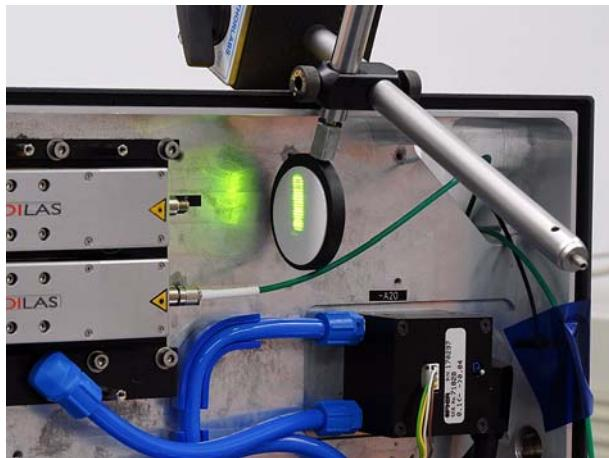

Figure 7.86 Checking the diode module
28. Using suitable means, fix the transducer disk to the output of the diode module (Figure 7.86).